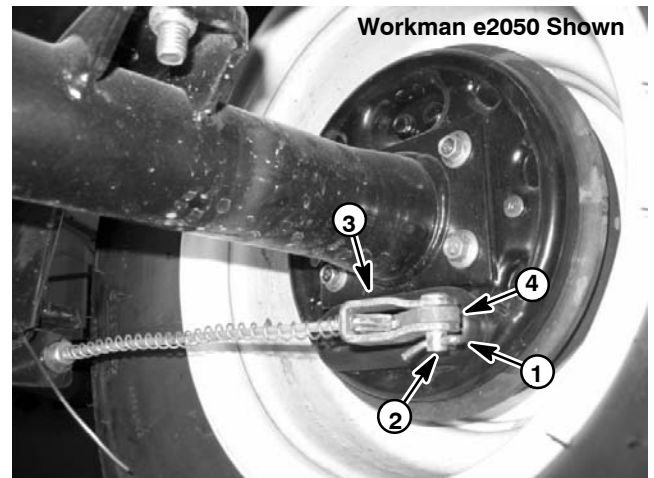

Figure 4
A. Remove cotter pin and clevis pin securing the brake cable bracket to the brake actuator lever (Fig. 4).
C. Remove four (4) cap screws and nuts securing the brake assembly to the transaxle. Remove brake assembly from the transaxle.
**IMPORTANT:** On Workman e2050 vehicles, the brake actuator levers must be positioned below the transaxle mount. On Workman e2065 vehicles, the levers should be positioned above the transaxle mount. When positioned correctly, the brake actuator levers will point toward the rear of the vehicle (Fig. 4).
- A. Secure brake assembly to the transaxle with four (4) cap screws and nuts. Torque screws from 15 to 19 ft-lb (20 to 26 N-m).
- C. Secure brake cable bracket to the brake actuator lever with clevis pin and cotter pin (Fig. 4).
4. Position wheel assembly to the vehicle with valve stem facing out and secure with five (5) lug nuts. Torque lug nuts in a criss-cross pattern from 45 to 65 ft-lb (61 to 88 N-m).